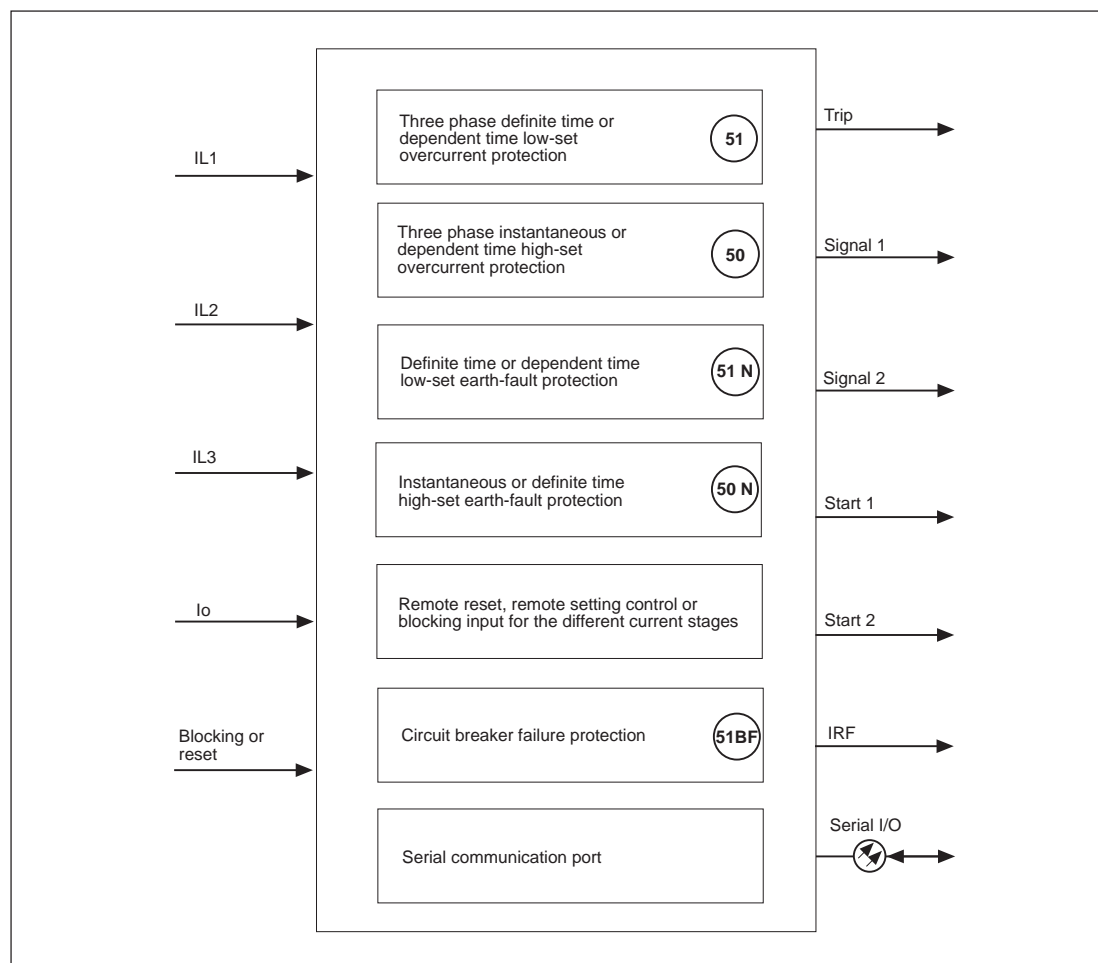

Fig. 1. Protective functions of the overcurrent and earth-fault relay SPAJ 142 C.
E) Shortly after the internal self-supervision system has detected a permanent relay fault the red IRF indicator is switched on and the output relay of the self-supervision system operates. Further, in most fault situations a autodiagnostic fault code is shown in the display. The fault code is composed of a red figure 1 and a green code number which indicates what may be the fault type. The fault code can not be reset as long as the fault persists. When a fault code appears on the display, the code number should be recorded on a piece of paper and given to the authorized repair shop when overhaul is ordered.